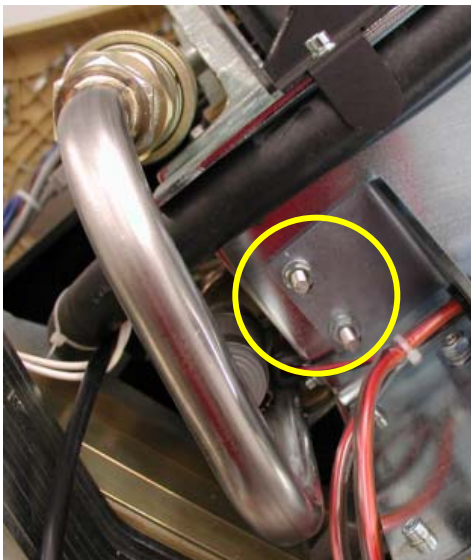

Figure 2. Heat exchanger screw location
1. Use a 10mm socket and extension to remove the M6 nuts and washers from the two socket cap screws at the heat exchanger location shown in Figure 2. Leave the screws in place as they will be reused to mount the bracket. It may be necessary to use a 5mm Allen wrench on the backside to keep the cap screws from spinning.